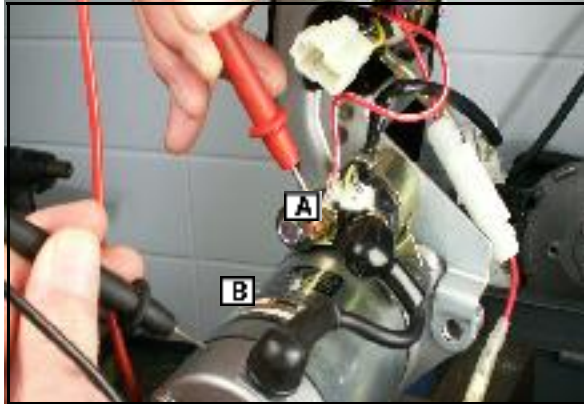

Fig. 57
2. Check for continuity at the input side (A) of the solenoid and ground ([B] Fig. 57).
- Digital Multimeter #19464 (E).
- DC Shunt #19468 ([D] Fig. 57)